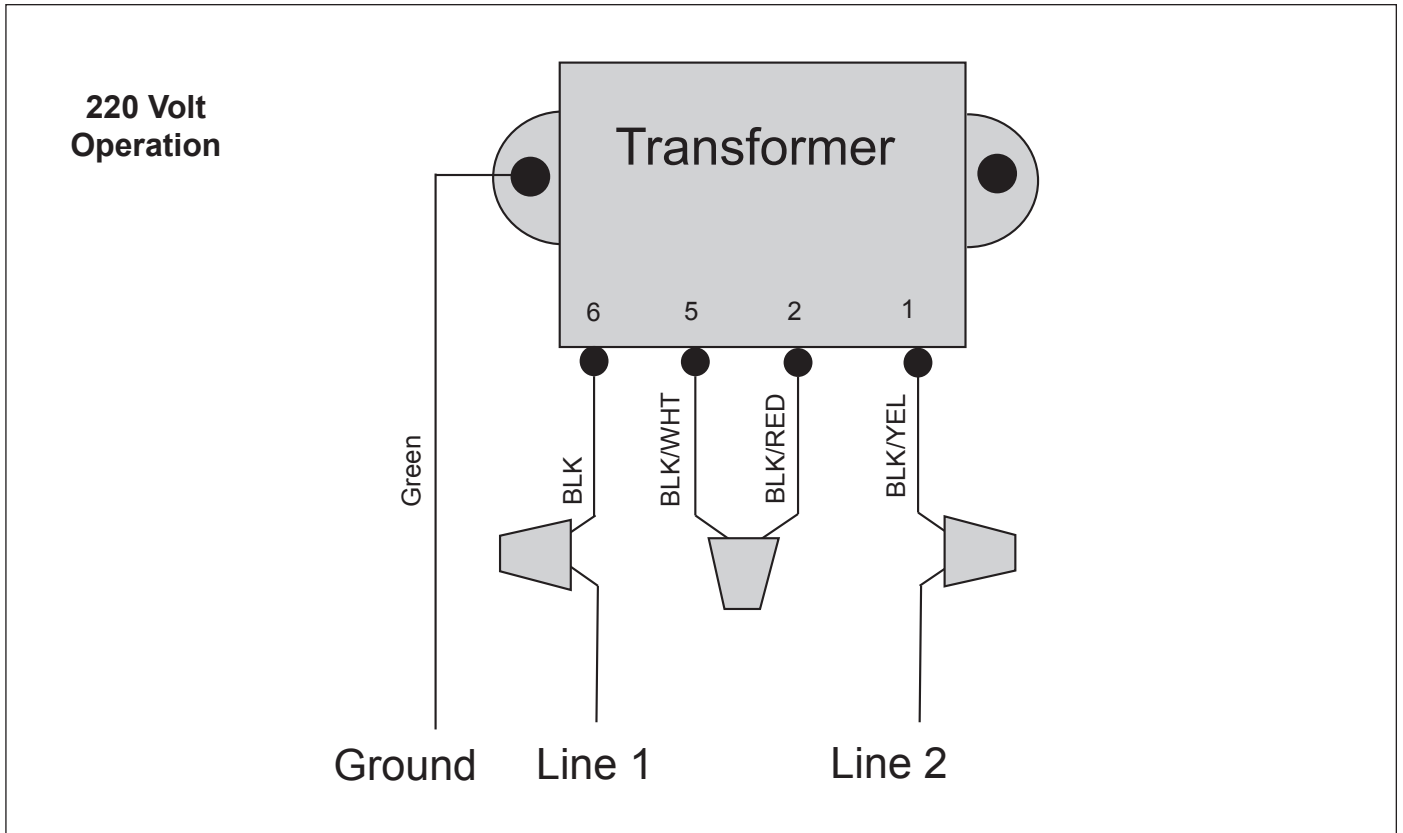

Figure 4. K-1100, K-2300, and LEV110CK/2G Factory Wiring for 220 Volt Operation
**Models K-1100, K-2300, and LEV110CK/2G are factory wired for 220 VAC service.** If available electrical service is 110 VAC, the power supply wiring must be changed to operate on 110 VAC as shown in figures 4, and 5.
3. Check the source voltage. (All three (3) units are factory wired for 220 volt operation.) To modify the wiring for 110 volt operation, see *Section 3.3*.
4. For 220 volt operation, connect the black wire to line 1 and connect the black wire with the yellow stripe to line 2. See Figure 4.
Refer to Figures 4 and 5 and do the following:
1. Cut the splice cap connecting the black/white and the black/red wires. See Figure 4.